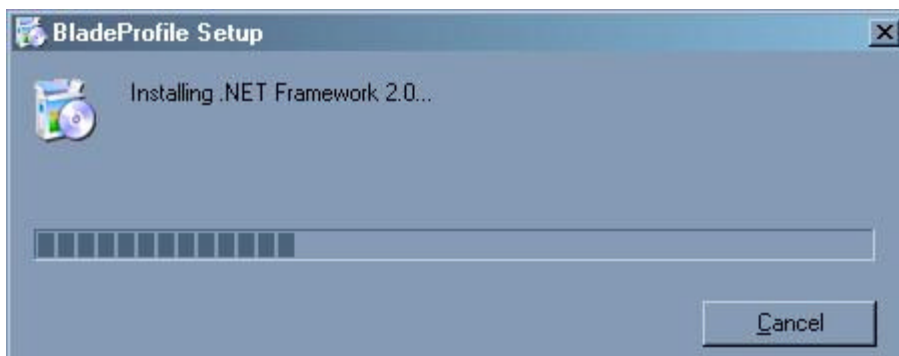

Figure 29
Step 2: The installation will proceed as shown in Figure 29